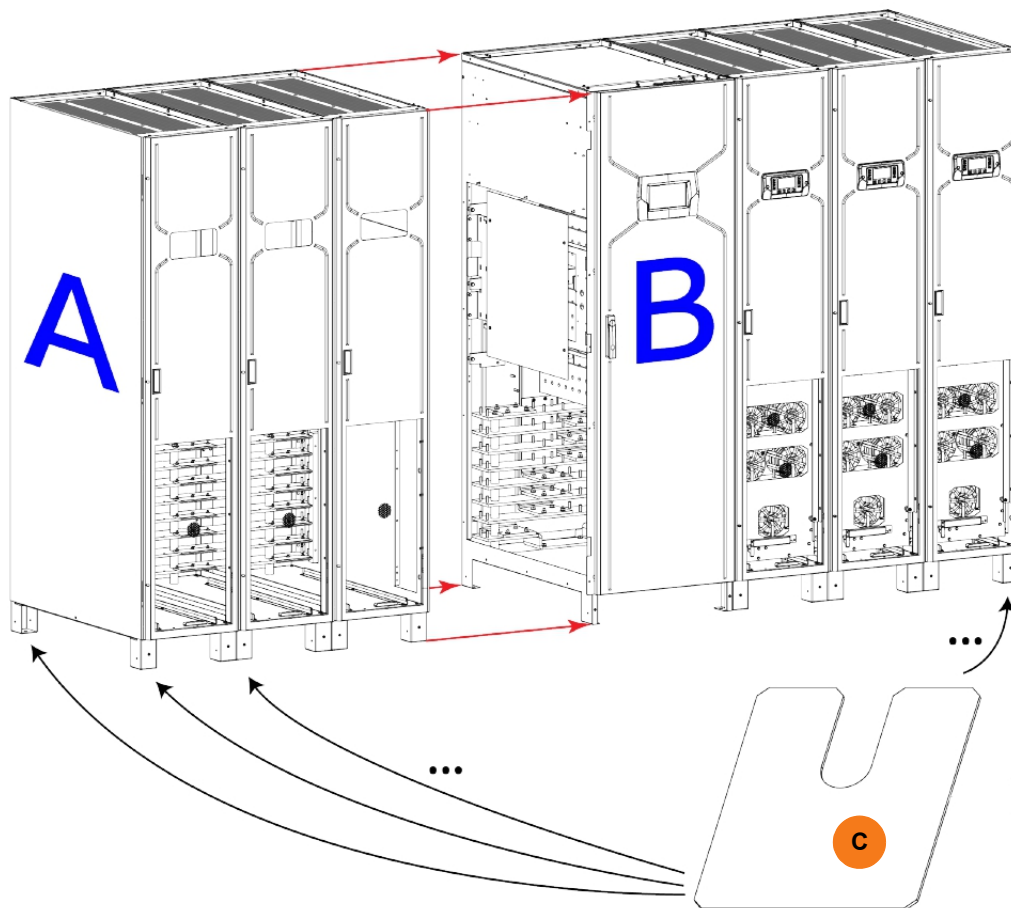
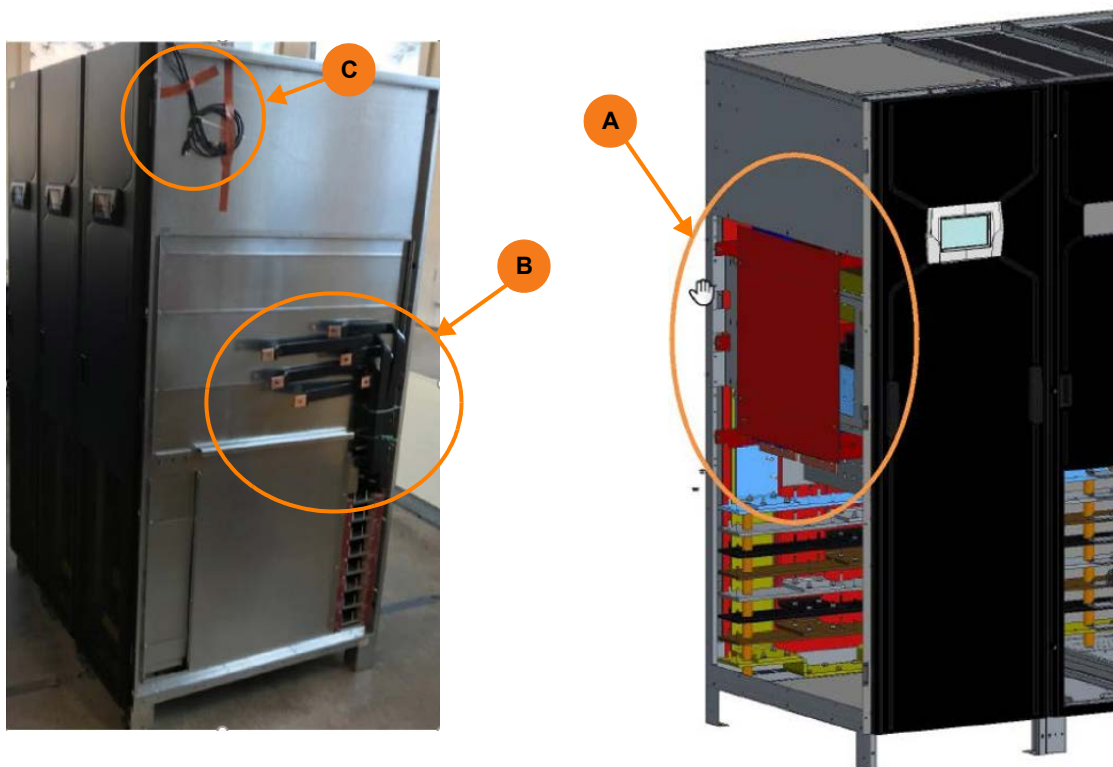

Figure 5.8 Cabinet alignment
Figure 5.13 Flexible busbars (DC)
4. Move the Frame A so that it is adjacent to Frame B. (see Figure 5.8), taking care not to trap the control cables at the top of Frame A between the frames – see Figure 5.13 (C).
6. Use a spirit level to ensure that the two frames are level. If necessary, place levelling shims (C) below the feet of the frames to ensure that the frames are level before the frames are joined. The shims are supplied as part of the cabinet installation kit.
4. Access the battery busbars in Frame B by removing the 4x screws that secure the red safety cover, as shown in Figure 5.13 (A), then remove the safety cover.
5. Connect the flexible DC busbars emerging from the back of Frame A (Figure 5.13 (B)) to the vertical battery busbars in Frame B.
6. Refit the red safety cover – Figure 5.13 (A).
1. The two parallel bus control cables emerging from Frame A, shown in Figure 5.13 (C), must be connected to the communications interface board located at the top front of the distribution frame in Frame B.
2. When the cabinet is in its final position use a spirit level to ensure that it is level. If necessary, insert levelling shims below the cabinet feet (see Figure 5.8).
2. When the cabinet is in its final position use a spirit level to ensure that it is level. If necessary, insert levelling shims (provided) below the cabinet feet (see Figure 5.8).